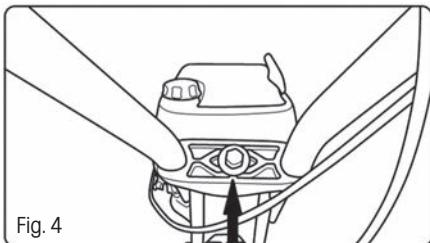

Fig. 4
1. First attach the handles in the middle part Fig. 4. The engine speed adjustment lever must be located on the right side. The handle with the cultivating blade control lever must be on the left side.